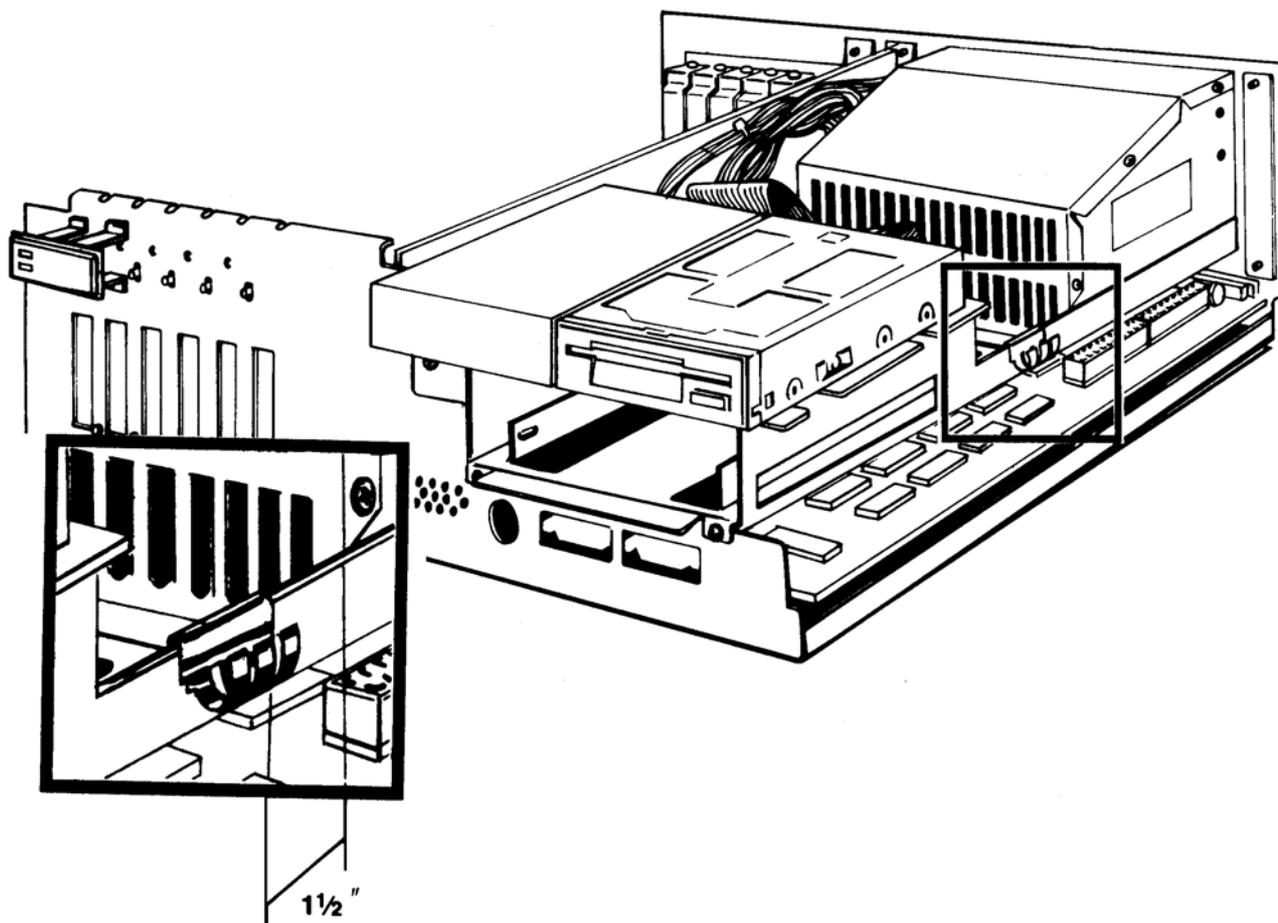

**Fig. 2: A2000 - Top View**
Before installing the A2320, you must first determine whether your Amiga 2000 has a 2- or 4-layer motherboard. **The A2320 can ONLY be used with the 2-layer motherboard version of the Amiga 2000.** This is determined by looking at the front left-hand corner of the motherboard. You should find, on the left edge of the motherboard, a label which says "AMIGA B2000 - CR" which indicates that your Amiga does indeed have a 2-layer motherboard. (See Fig. 2.)
- 7) To insure that your computer was set properly at the factory, remove the Amiga's cover, as shown in the chapter on installing the A2320, and check to see that the shorting block on jumper J300 on the motherboard is on the default setting. This jumper is located under the power supply (noted in Fig. 2) but you may be able to see the jumper by looking back from the right front corner of the Amiga. The shorting block should be connecting the leftmost and center pins of the 3-pin jumper. This jumper determines the time base used for the 50/60 Hz CIA timer chip. In normal (factory default) position, the 50/60 Hz TICK clock, based on AC line frequency, is used as a time base. In the alternate position, the vertical sync pulse from the video section is used. The A2320 may not operate correctly if the vertical sync pulse is used as the CIA time base, with the jumper in the right-hand position.